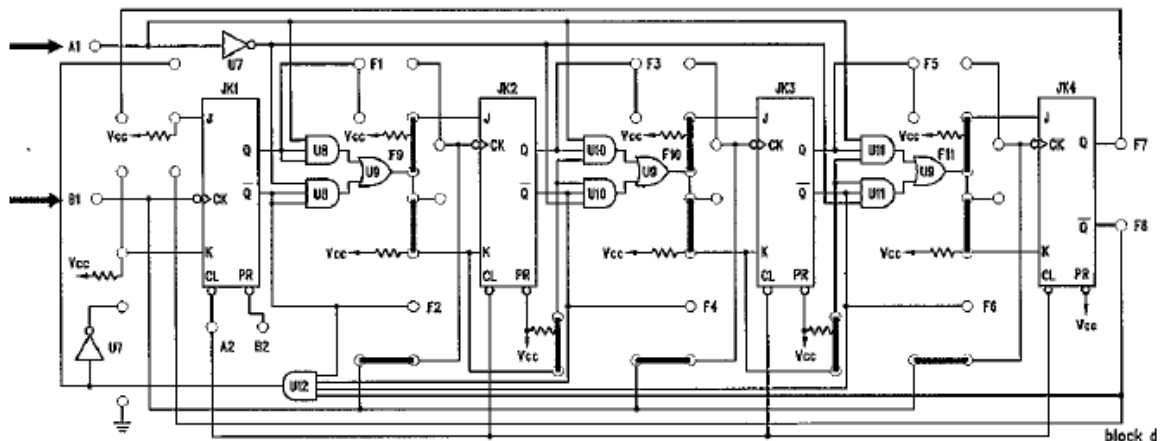

Figure 2.3
- Construct a synchronous binary up counter as shown in **Figure 2.3**. Set A1 to HIGH.
1. Construct a binary up/down counter circuit as shown in **Figure 2.3**. While  $A1=1$ , the circuit is set to up-counting. Contrarily, while  $A1=0$ , the counter is set to down-counting.